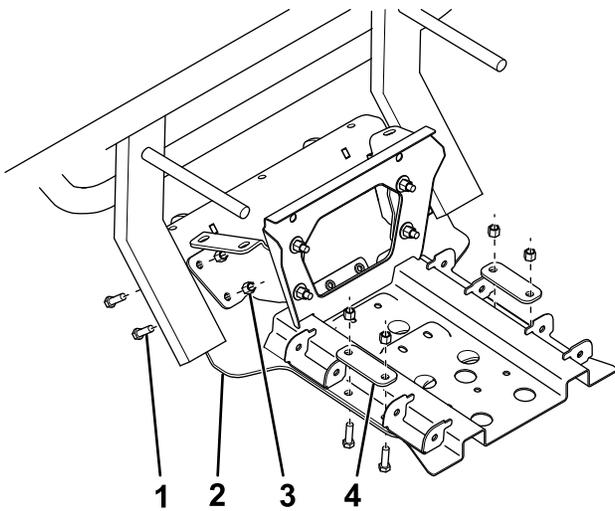

Figure 3
6. Secure the front of the plow skid plate to the vehicle and undercarriage support mounts using 4 bolts (3/8 inch) and locknuts (Figure 3).
7. Secure the rear of the plow skid plate to the vehicle using 4 bolts (3/8 inch), 2 backer plates, and 4 locknuts (Figure 3).